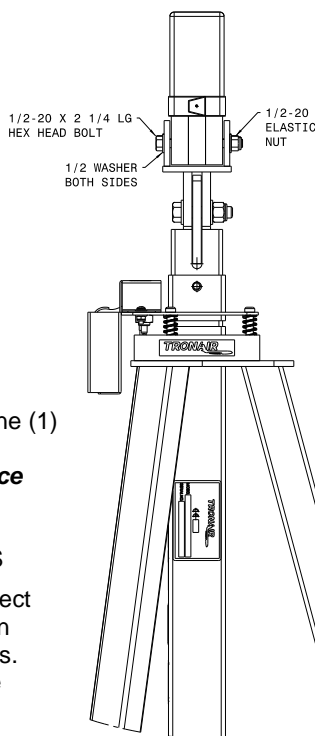

FIGURE 3
2. Fasten cradle assembly to extension tube with one (1) $\frac{1}{2}$ - 20 x 2 $\frac{1}{4}$ inch hex head bolt, two (2) $\frac{1}{2}$ inch flatwashers, and $\frac{1}{2}$ - 20 elastic stopnut. **Reference Figure 3.**